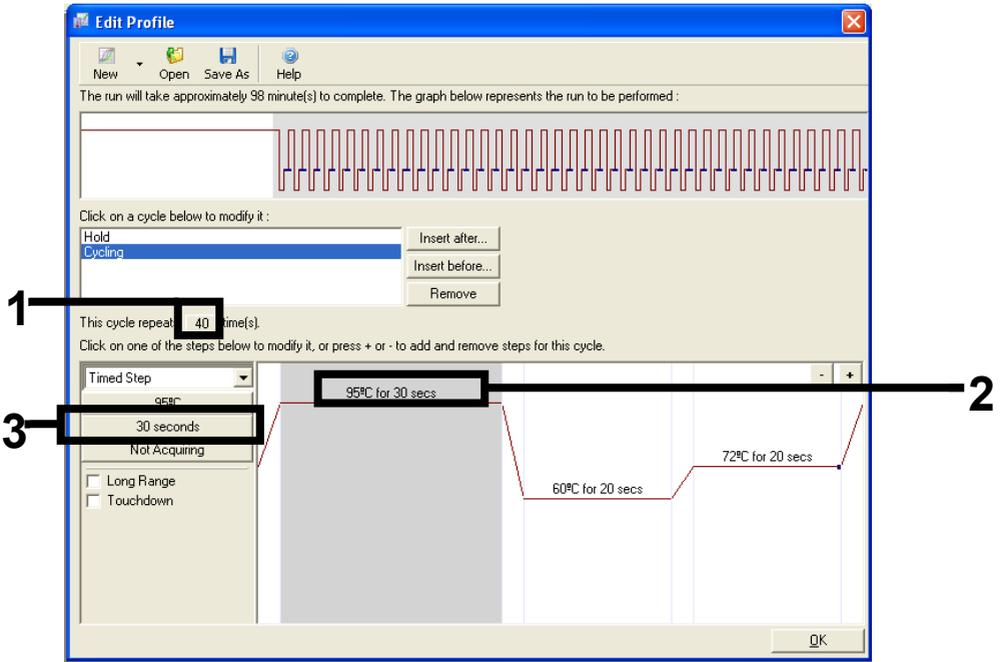

Figure 14. Cycling step at 95°C. 1 = “Cycle repeats” box, 2 = “step one temperature” setting, 3 = step one time setting.
8. Change the number of cycle repeats to 40. Select the first step and set to “95°C for 30 secs” (Figure 14).